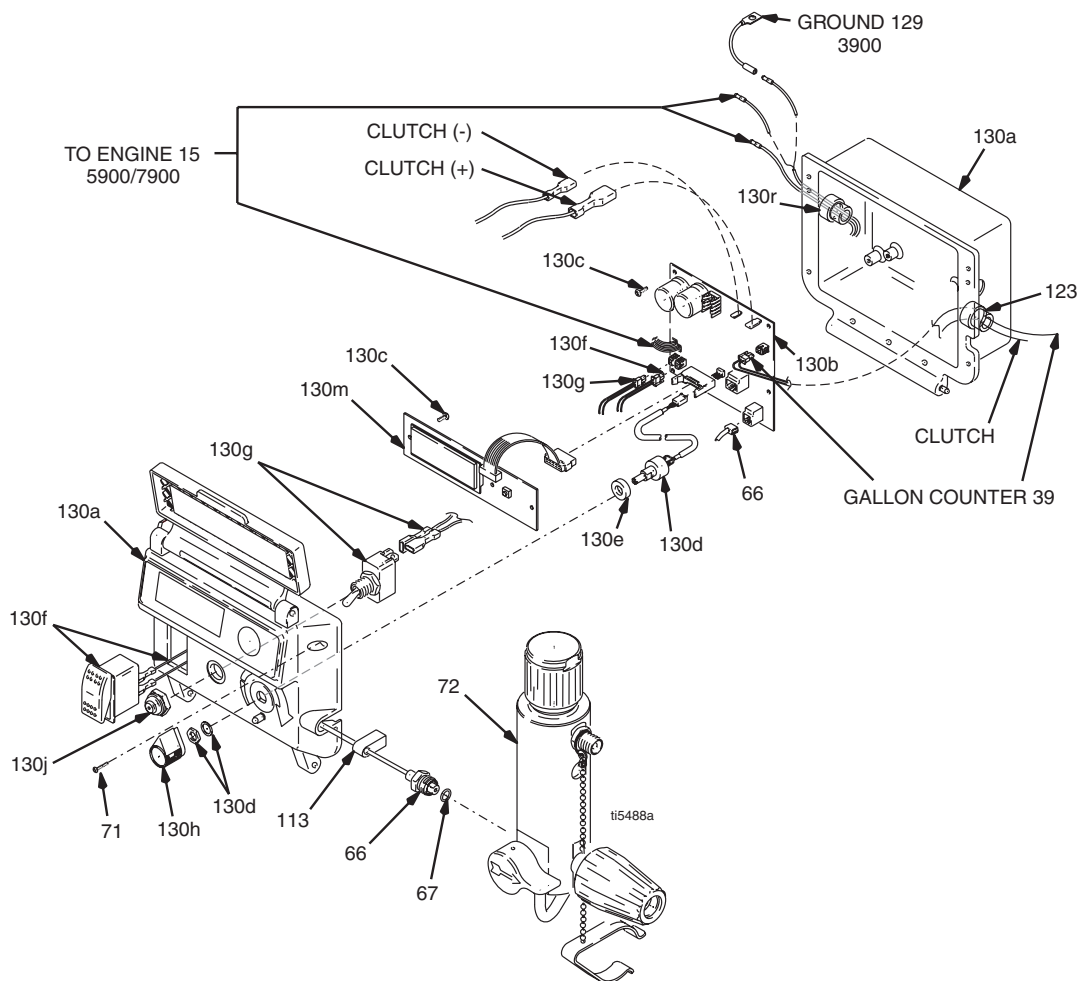

FIG. 14
- a. FIG. 14. Remove two screws (71) and swing down cover (130a).
- FIG. 14. Connect clutch cable connectors to inside of pressure control.
1. FIG. 14. Remove two screws (71) and swing down cover (130a).
- FIG. 14. Remove two screws (71) and swing down cover (130a)
- Lead from transducer (66)
- Lead from gallon counter sensor (39)
- FIG. 14. Install control board (130b) with four screws (130c).
- Disconnect transducer (66) lead from control board (130b).
- Pull transducer connector through rubber grommet (113).
- Remove pressure control transducer (66) and o-ring (67) from filter housing (72).
- FIG. 14. Install o-ring (67) and pressure control transducer (66) in filter housing (72). Torque to 35 - 45 ft-lb.
- Connect transducer (66) lead to control board (130b).
- Swing up cover (130a) and secure with two screws (71).
- FIG. 14. Install potentiometer, shaft nut, lock washer and potentiometer knob (130h).